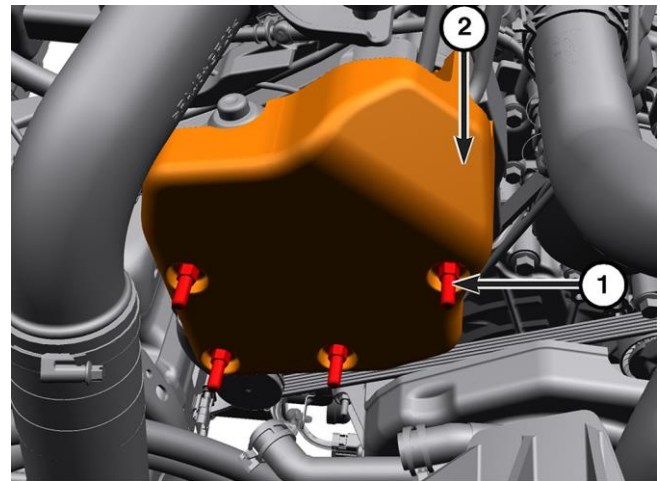

Figure 81 – HPFP Sound Proofing
3. Remove the bolts (1) securing the sound proofing (2) to the fuel injection pump (Figure 81).
43. Install the fuel injection pump cover (2) and tighten the screws (1) securely (Figure 81).